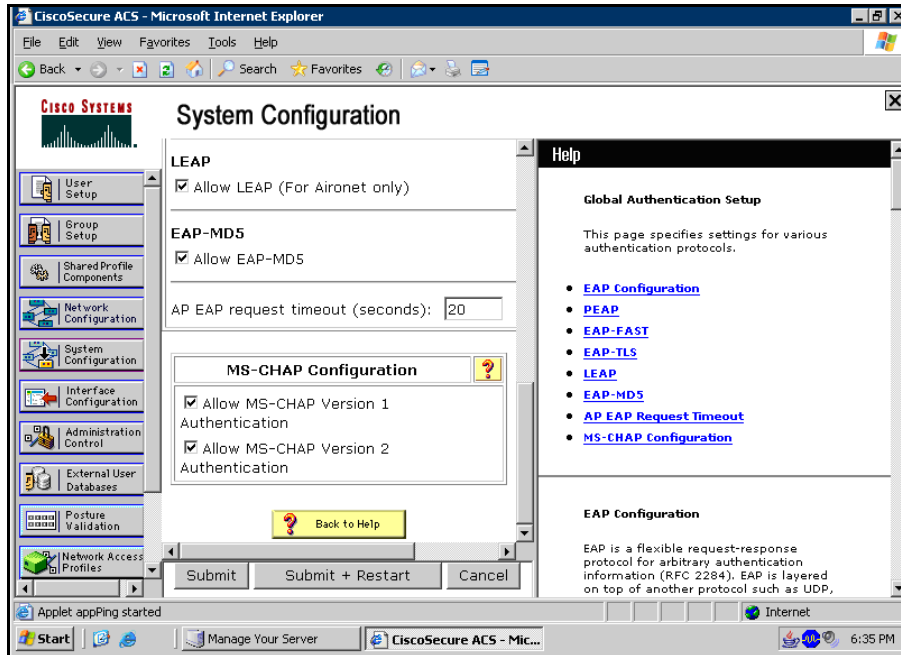

FIG. 61 EAP-LEAP sample Cisco System Security page
- Refer to FIG. 61 for an example of what a typical EAP-LEAP system configuration page would like.